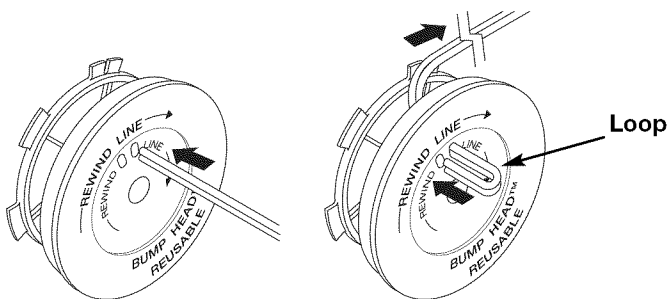

Fig. 21
- Take approximately 9 feet (2.7 m) of new trimming line. Insert one end of the line through one of the two holes in the inner reel (Fig. 21). Pull the line through the inner reel until only about 4 inches is left out.
- Insert the end of the line into the open hole in the inner reel and pull the line tight to make the loop as small as possible (Fig. 21).